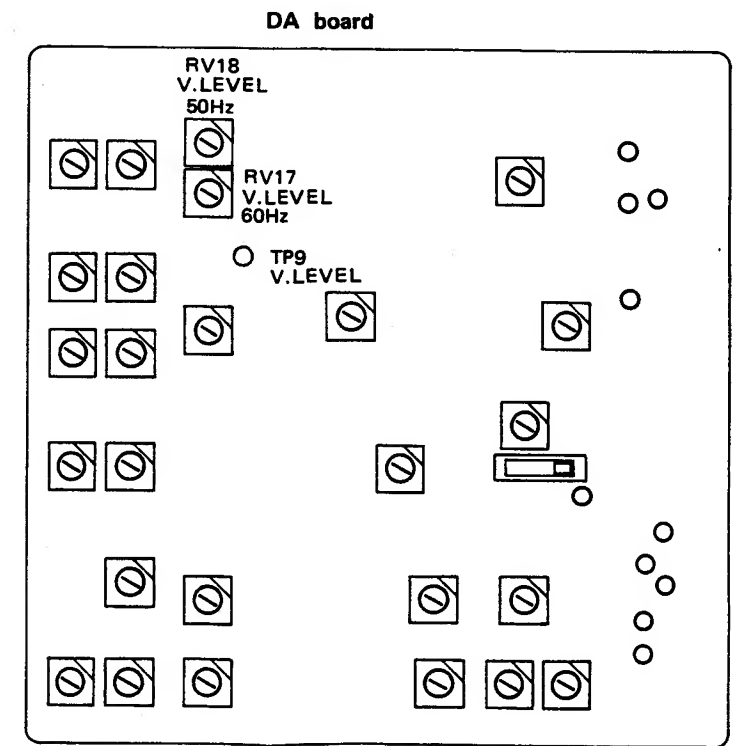

Fig. 20-1
3. Adjust RV18 on the DA board so that output waveform is 12.0Vp-p as shown in Fig. 20-1.